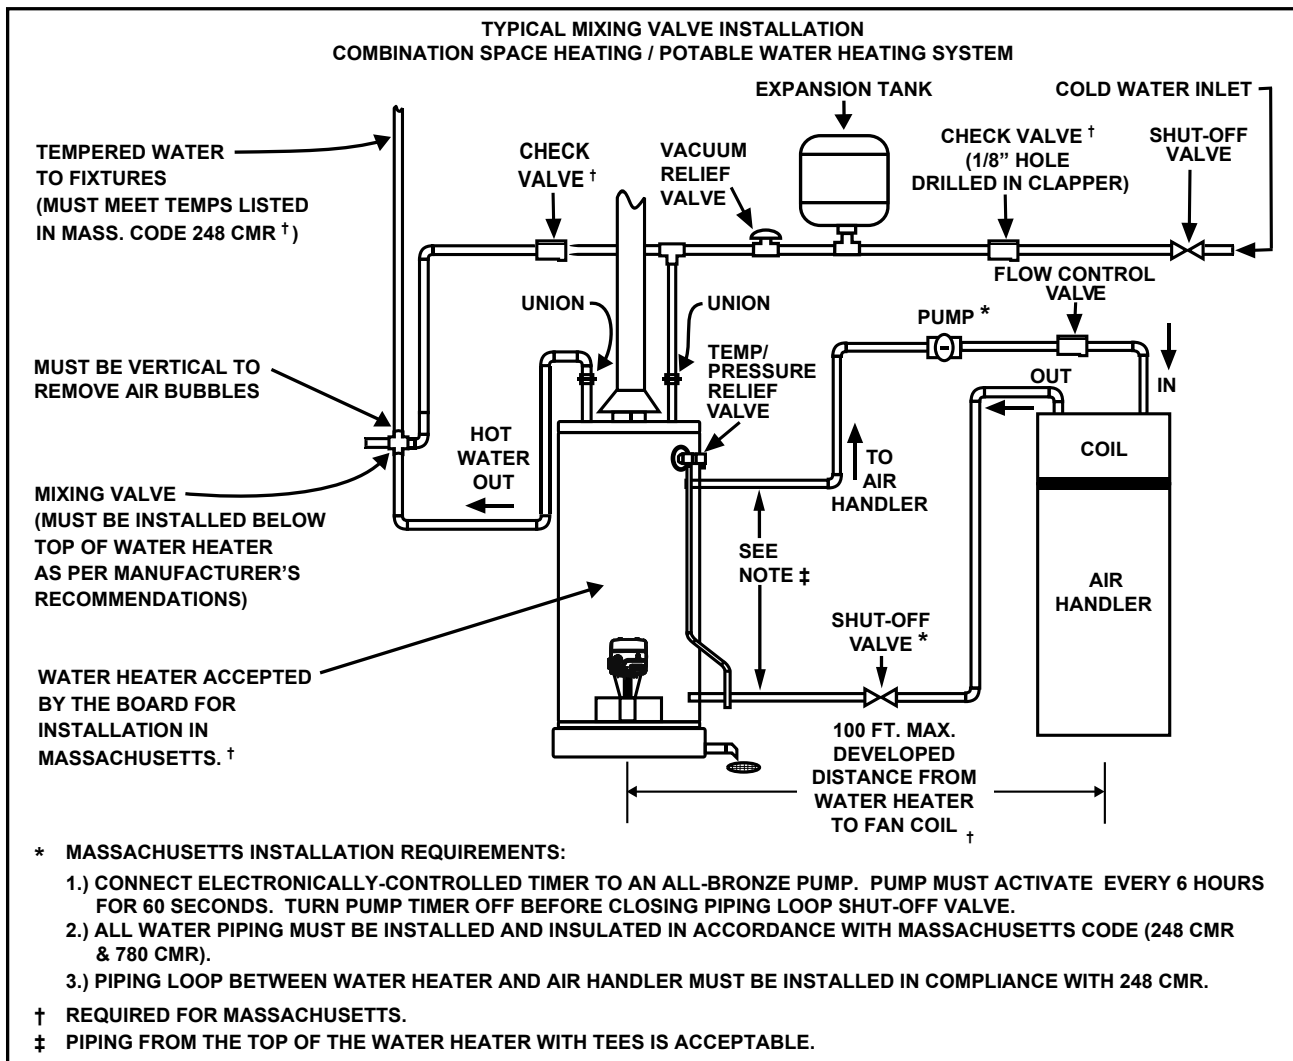

Figure 6
4. When the system requires water for space heating at temperatures higher than required for domestic water purposes, a mixing valve must be installed, see Figure 6 for suggested piping arrangement.